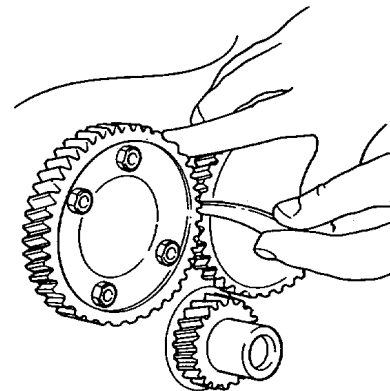

Figure 5-30. Gaging Backlash.
- (3) Using the adjustable idler gear, backlash between both crankshaft gear/idler gear should be set within 0.0015-0.0025 in. (0.038-0.064 mm) with the gears held together to take up the effect of bearing clearance. Check backlash with feeler gages (see Figure 5-30).